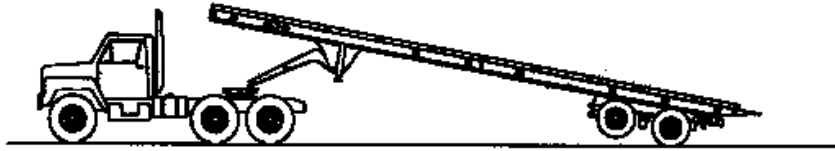

**Figure 3-7: Container Guide, Stop, and Hold-Down Locations**
- f. Install stop blocks in side rail slots at the location you want the front of the container to stop (**See Figures 3-7 and 3-8.**)
- j. After feet are installed, the container can be pulled up to stops **(See Figures 3-7 and 3-8).**
- n. Insert hold-down pins through stops and chair bridle **(See Figures 3-7 and 3-8.)**